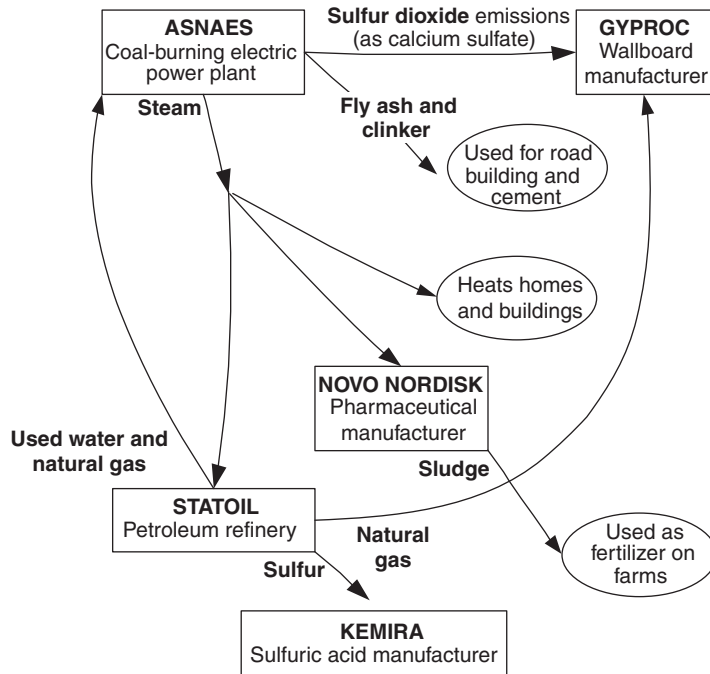

Figure 2.2
Pollution prevention is tremendously attractive, but we cannot avoid all waste and pollution. Moreover, P2 alone cannot accomplish other critical environmental aims such as preserving species biodiversity or saving land. What if we could legitimately redefine the word “waste”? Kalundborg, a city in Denmark, is a model of treating wastes as useful by-products in a process called *industrial symbiosis*: by-products, whether material, energy, or water are sold or given to nearby facilities, which use or reuse them (Figure 2.2).
3. Review Figure 2.2. Then consider industrial, municipal, or other facilities in your locale. (a) What is one possibility that exists for industrial symbiosis? (b) What factors – physical location, financial, liability, public policy – could favor such symbiosis? (c) How could waste materials produced or collected by municipal operations (recyclables, sewage) fit into the symbiosis? (d) How about local agricultural wastes?